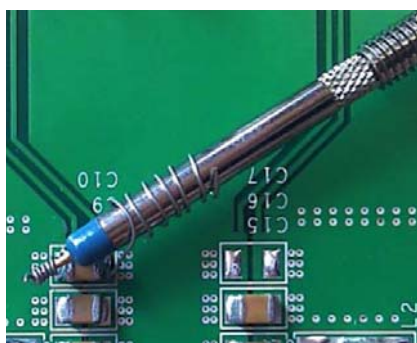

Figure 4. Measuring the Output Voltage Ripple
Set the oscilloscope to ac, 10 mV/division, and 2 μ s/division time base, with the bandwidth (BW) set to 20 MHz to avoid noise interfering with the measurements. To minimize coupling, shorten the ground loop of the oscilloscope probe. A good way of measuring the output voltage ripple is to solder a wire to the negative (–) capacitor terminal and wrap it around the barrel of the probe, while the tip directly connects to the positive (+) capacitor terminal as shown in Figure 4.